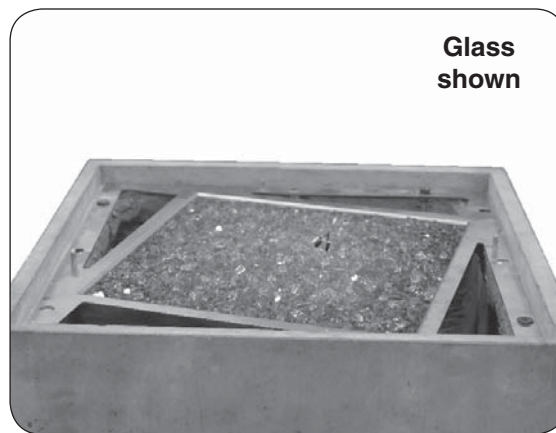
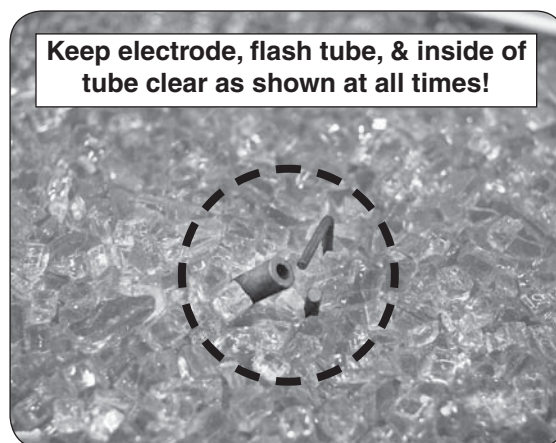
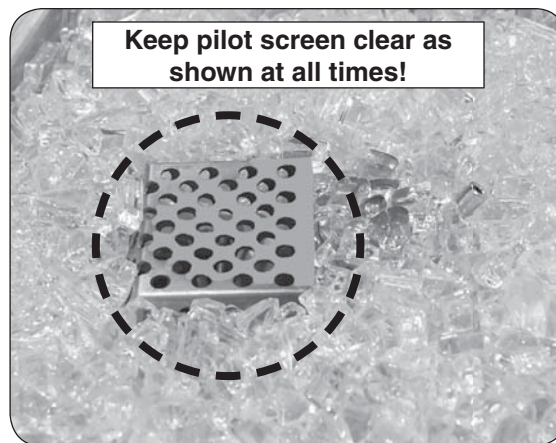

Fig. 22-1 Glass placement
Fig. 22-2 Required clearance-V/K-1 models
Fig. 22-3 Required clearance-E/S-1 models
Pour the glass media (glass/gems) evenly into the burner pan (see Fig. 22-1 and Fig. 22-2 or 22-3).
- **Keep the pilot screen (or electrode, flash tube, and inside of the flash tube) clear of glass media and any other items / debris at all times. This will allow for proper ignition and operation. DO NOT COVER. See Fig. 22-2 or Fig. 22-3.**